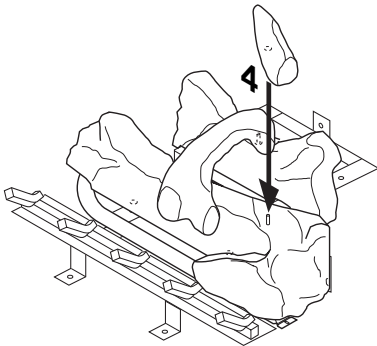

Figure 48 - Installing Log No. 4
4. Place log #4 (right log) on the pin on the right side of front log as shown in Figure 48, page 26.